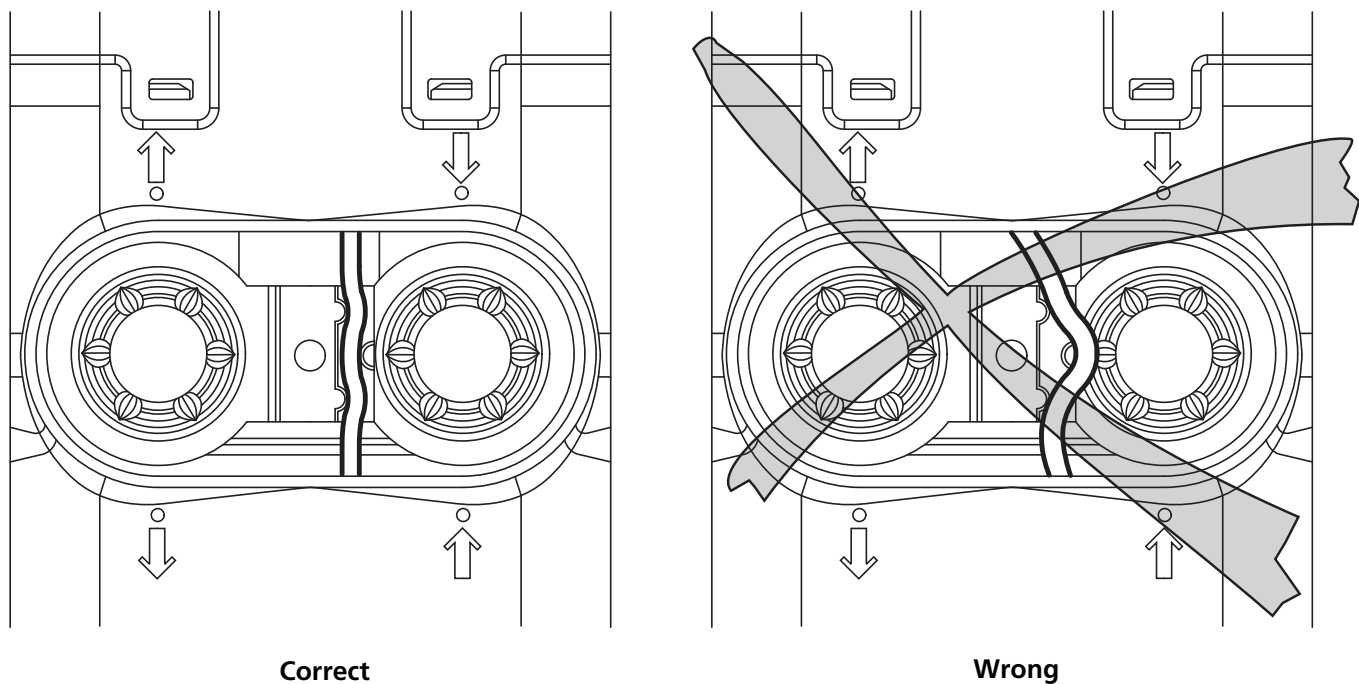
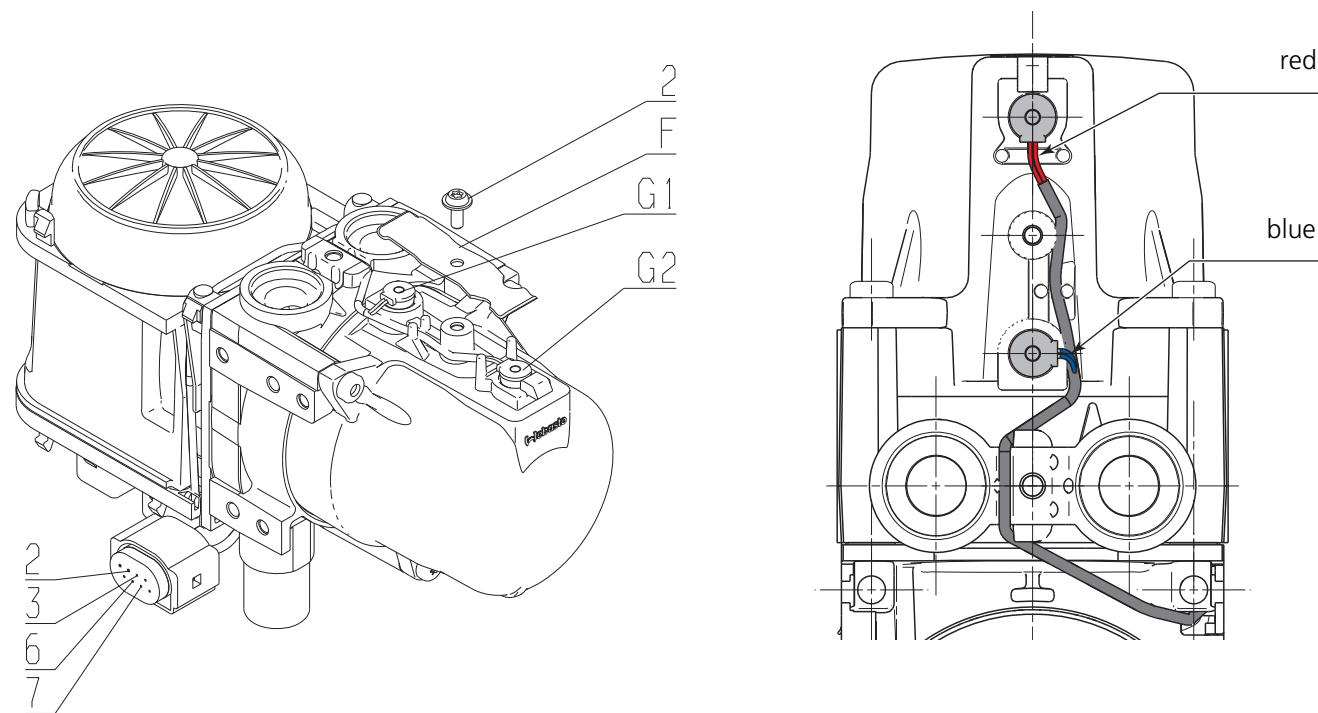

Fig. 910 Cable routing for temperature sensor and overheating sensor with water connection-piece variant A
Fig. 911 Cable routing for temperature sensor and overheating sensor with water connection-piece variant B
See Fig. 910.
See Fig. 911.
1. Moisten sensors with coolant and press as far as possible into hole of heat exchanger. In the process, ensure correct position of sensors and cable (see Fig. 910 and Fig. 911).
2. Lay on retaining spring and fasten with screw (2) with 4 ± 0.4 Nm tightening torque. Before screwing on, make sure that wires are not crushed by retaining spring as shown. Retaining spring (F) must face toward front with 2 side notches and be fixed in place by positioning pins of heat exchanger.
3. Route cable tautly as shown in Fig. 910 and Fig. 911. The cable may not lie outside the cable duct provided, as otherwise it may be damaged when installing the water connection piece.